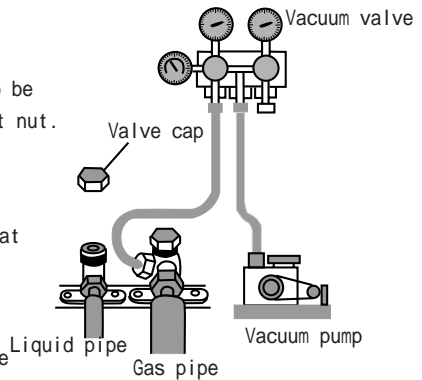

Fig.9
9. If possible, discharge air from valve core with a vacuum pump.(shown in Fig.9)